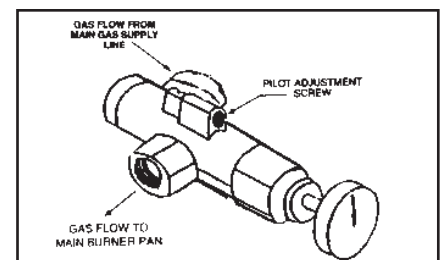

Figure 20-Pilot Flame Adjustment
The Pilot Thermocouple should be engulfed by the Pilot Flame by approximately 1/2". Should the Pilot Flame become unable to heat the Thermocouple properly, you will need to adjust the Pilot. Adjust the height of the Pilot Burner flame by rotating the Pilot Adjustment Screw to the desired 1/2" flame height (Figure 20).
**NOTE:** Be sure to turn Pilot Adjust Screw counter-clockwise (↺) two turns to get gas to flow to the Pilot. (See Figure 20). Off Position.